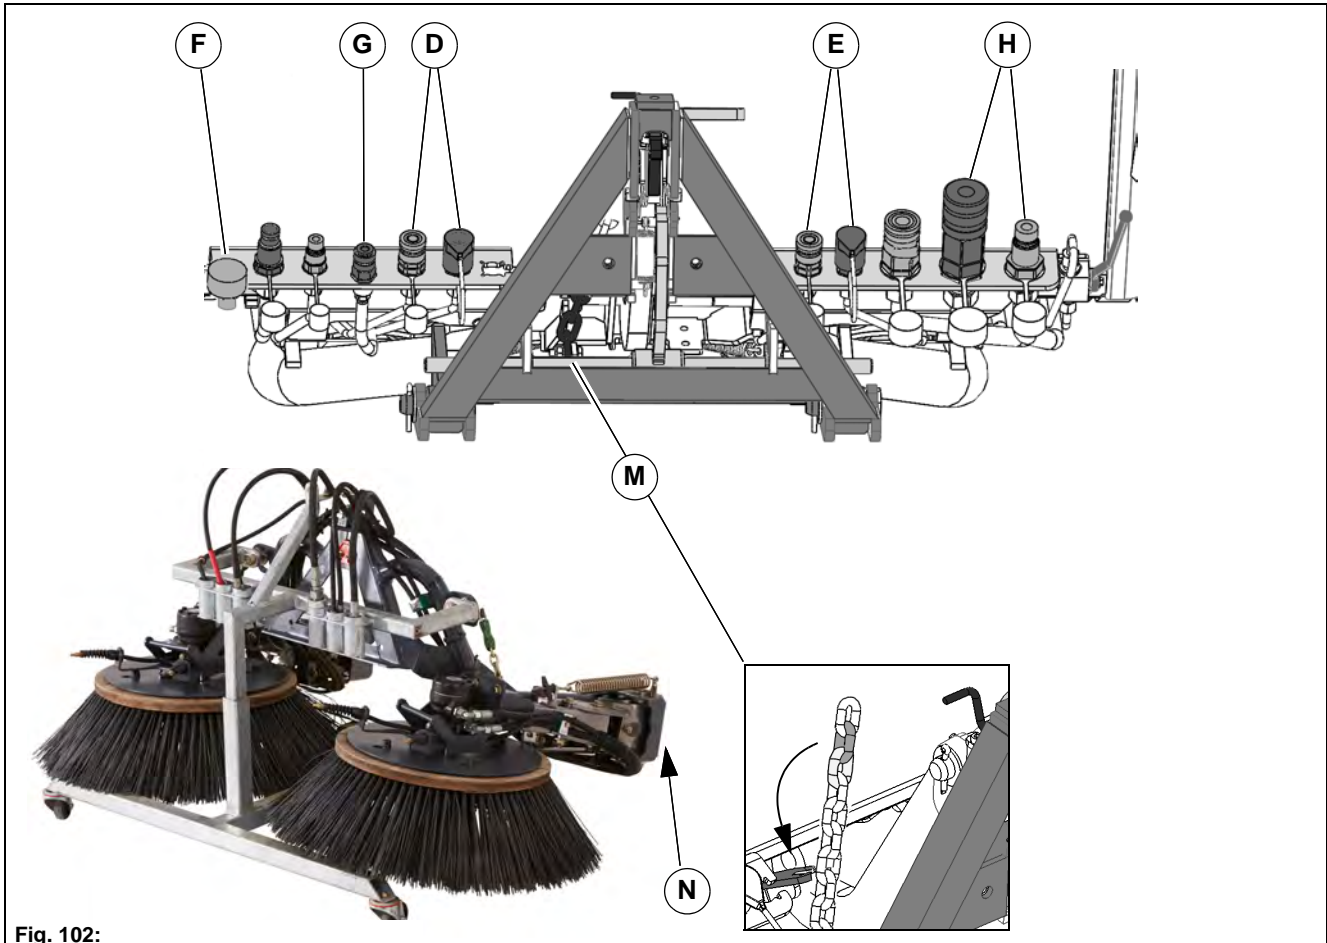

Fig. 102:
- Right actuator – Supply/return = **Fig. 102-D**
- Left actuator – Supply/return = **Fig. 102-D**
- 19-pin coding plug = **Fig. 102-F**
- Water connection for sweeping unit spray nozzles = **Fig. 102-G**
- Sweeping unit hydraulic motors – Supply/return = **Fig. 102-H**
8. Hook the chain **Fig. 102-M** in the first chain link. Lower the front tool carrier and drive the brush arms apart. Check that the edge **Fig. 102-N** stands vertically. Change the hooking position of the chain as required.